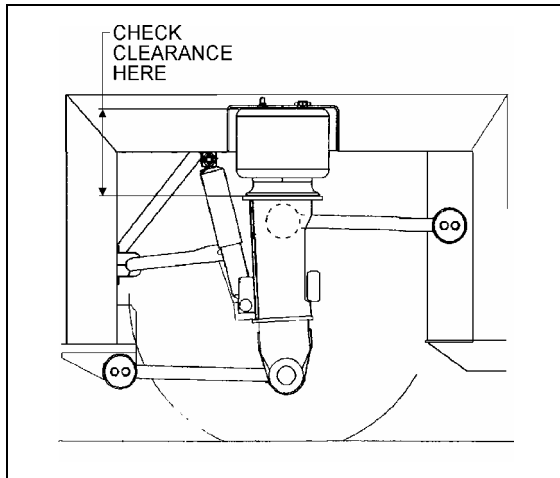

FIGURE 11: TYPICAL AIR SPRING CLEARANCE 16002
2. Safely support the radius rod, and place new bushing on top of the radius rod end (Fig. 11).
The appropriate vehicle body height is obtained by measuring the clearance of all the air springs installed on the front and drive axles. The clearance should be $12 \pm \frac{1}{4}$ " (305 ± 6 mm), $11 \frac{11}{16} \pm 0.25$ " (297 ± 6 mm) for ISS for the air springs installed on the front axle and $11\frac{1}{2} \pm \frac{1}{4}$ " (292 ± 6 mm) for those installed on the drive axle. Refer to figure 11 to identify the correct location where the measure has to be taken. At this point, it should not be necessary to make an adjustment under normal service conditions. However, if an adjustment is required, change the position of the overtravel lever in relation to the overtravel control body. The lever should be moved up to raise the height of vehicle, and down to lower it. Check that main air pressure is at normal operating pressure and raise the vehicle to the specified height.
1. With the vehicle at normal operating air pressure, check the air spring clearance as illustrated in figure 11. This clearance should be $12 \pm \frac{1}{4}$ " (305 ± 6 mm), $11 \frac{11}{16} \pm \frac{1}{4}$ " (297 ± 6 mm) for ISS for the front axle air springs and $11\frac{1}{2} \pm \frac{1}{4}$ " (292 ± 6 mm) for those on the drive axle.
Note: The measure should be taken from under the upper air spring support on subframe to top of the lower air spring support on axle (refer to fig. 11 for more details). If adjustment is required, begin with the drive axle.